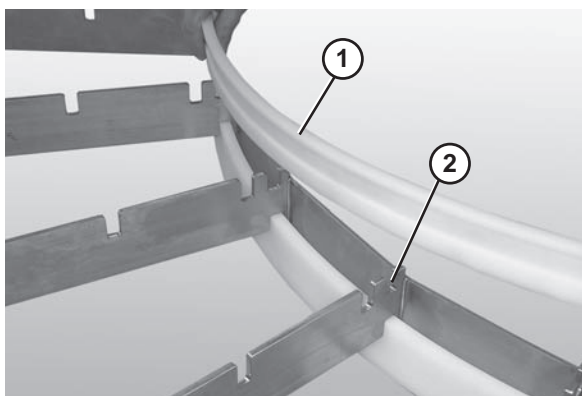

Figure 30
1. Insert the inside curve top wear strip (**Figure 30, item 1**) into the innermost slot (**Figure 30, item 2**) on the inside of the frame.